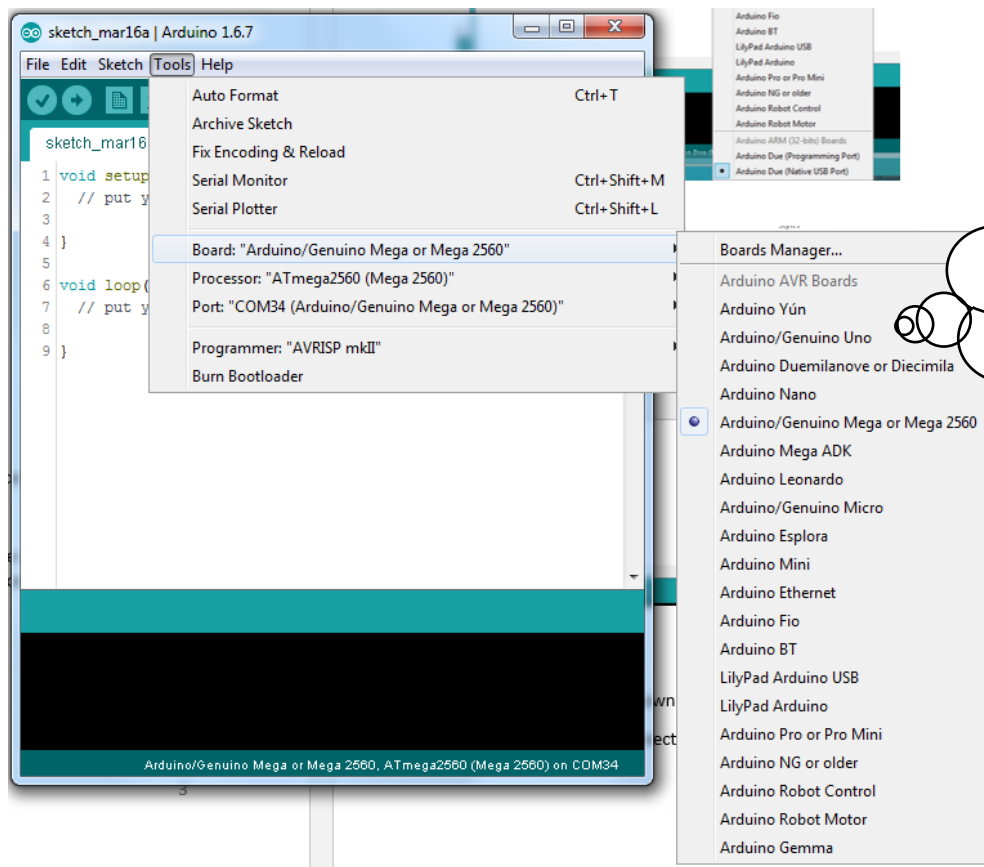

Figure 2 Selecting the Arduino type
1. Under the menu **Tools**→**Board**, select 'Arduino / Genuino Mega or Mega 2560' (figure 2)